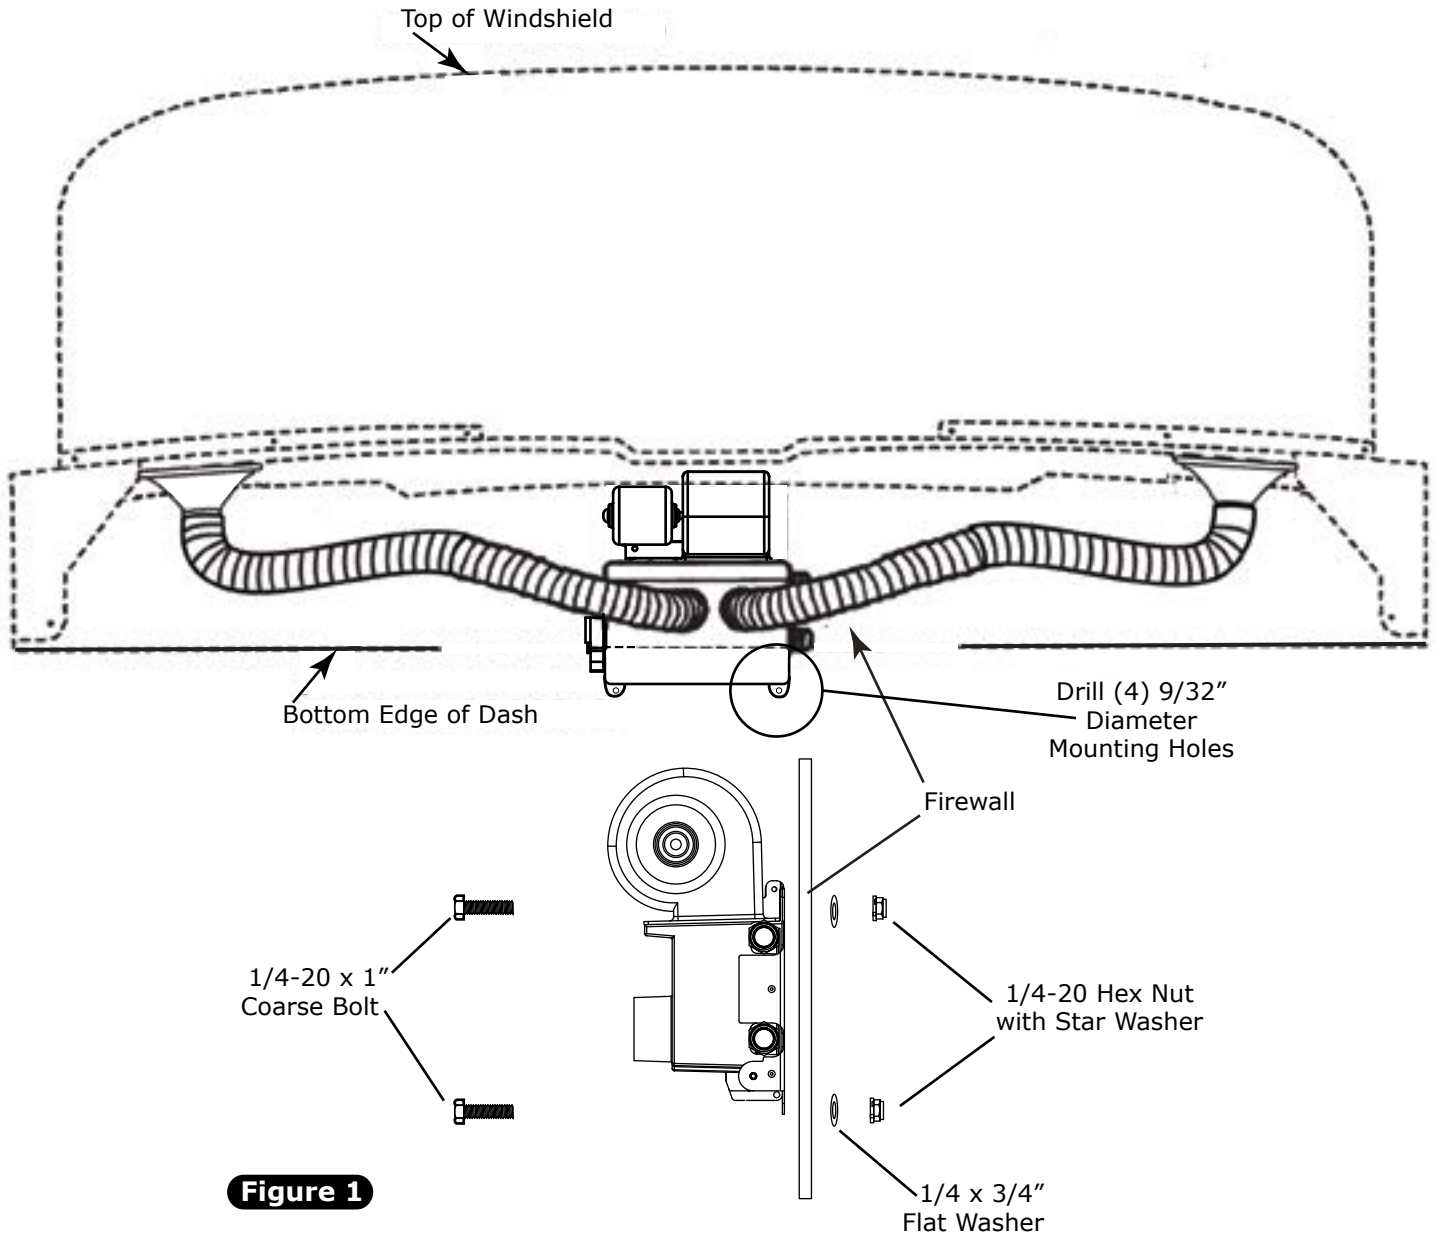

Figure 1
1. Use heater unit as a template and drill (4) 9/32" diameter mounting holes as shown in Figure 1, below. **NOTE:** The Vintage Air heater unit is designed to mount inside of the firewall in the passenger compartment. The installation of the unit varies according to body manufacturer or modifications to original firewall. After selecting location, be sure unit does not interfere with cowl vent, wipers, etc.